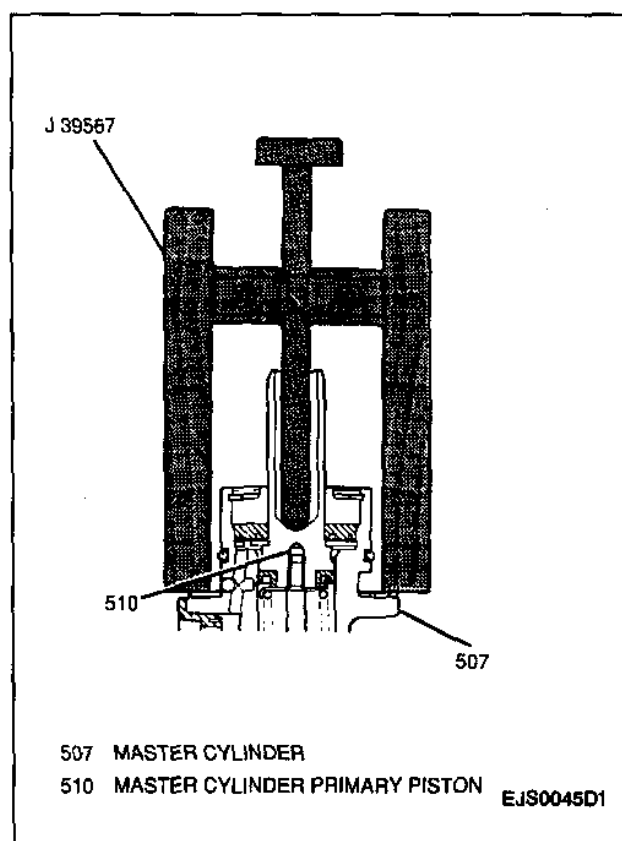

Figure 4—Installing J 39567 Onto Master Cylinder
1. Set a J 39567 on the master cylinder. Push the J 39567 pin down until it touches the master cylinder primary piston (Figure 4).
- The clearance between the brake booster piston rod and the J 39567 (Figure 4). If the clearance is not 0.0 mm (0.0 in.), adjust the brake booster piston rod length.